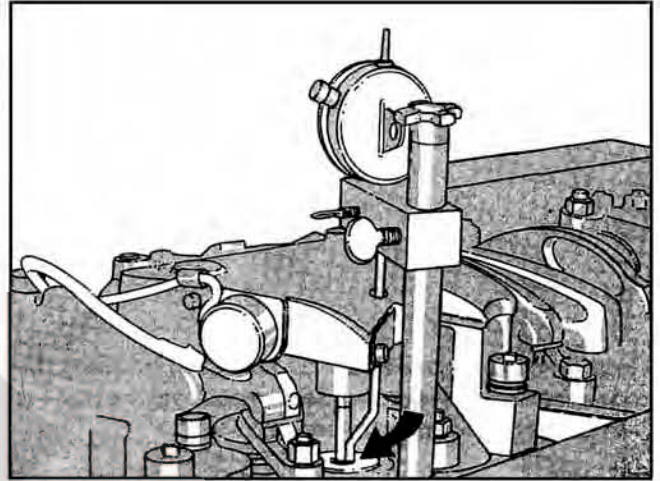

Fig. 2-26, (OM1061L). Dial indicator in place — extension in contact with plunger
**Note:** The injector and valves on any one (1) cylinder can not be set at the same valve set position. Example: If the rocker levers on No. 3 cylinder are free (valves closed) the injector plunger travel on No. 6 cylinder is a starting point. See Table 2-4.
2. Install 3375004 Dial Indicator Assembly to the rocker housing, (3375005) extension must go through the opening in the Jacobs Brake housing and contact the injector plunger top, Fig. 2-26.
3. Screw the injector lever adjusting screw down until the plunger is bottomed in the cup, back off approximately 1/2 turn then bottom again, set the dial indicator at zero (0).